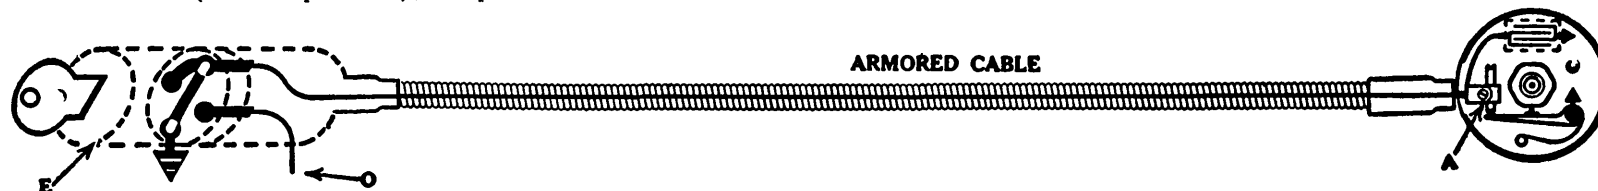

Fig. 13.
3. Place one TEST POINT on primary terminal on inside of distributor ("A", Fig. 13), and touch other TEST POINT to end of wire running from side of lock ("O", Fig. 13). With switch unlocked ("ON" position), lamp should burn. With switch locked ("OFF" position), lamp should not burn.
4. Place one TEST POINT on primary terminal on inside of distributor ("A", Fig. 13), and other on any part of lock casing ("E", Fig. 13). With switch locked ("OFF" position), the lamp should burn. With switch unlocked ("ON" position), the lamp should not burn. Should the lamp burn in the unlocked or "ON" position of switch, there is either a ground in the "Clum Assembly" or distributor condenser is shorted or grounded. It will be necessary to disconnect condenser from distributor to determine whether ground is in "Clum Assembly" or condenser.